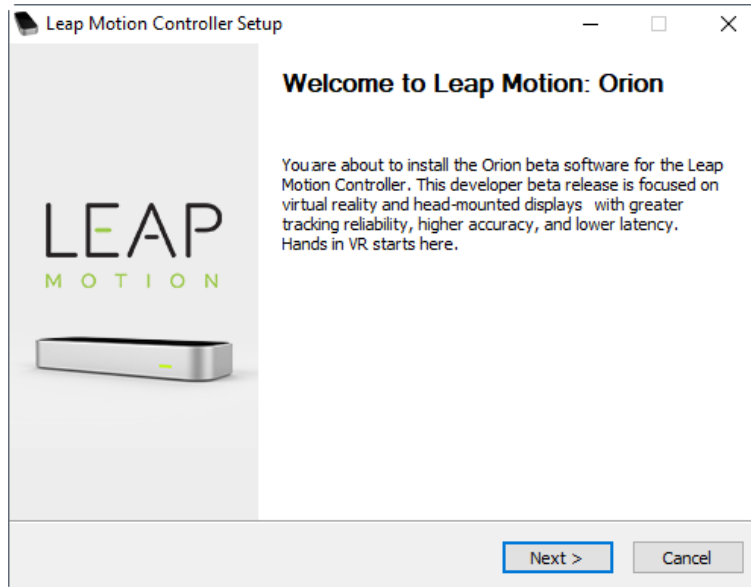

Figure 5.108 The Leap Motion Installation Interface
- Step 2** Install the Leap Motion driver software by following the on-screen instructions, as shown in Figure 5.108.